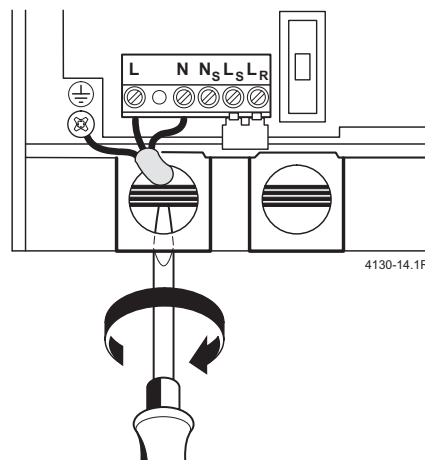

Fig. 24
- ▶ Feed cable through cable grommet and connect the mains supply cable, see fig. 24.